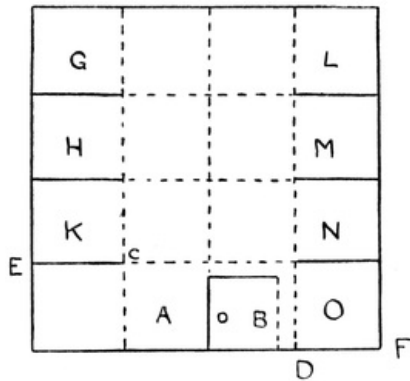
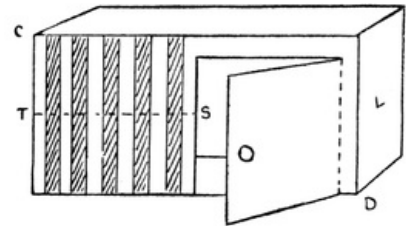
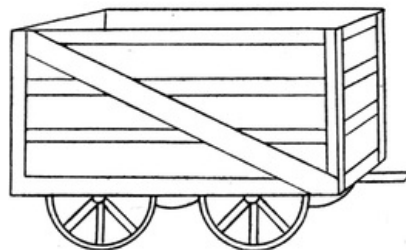

FIG. 6
FIG. 7
FIG. 9
**Model 1. The Rabbit Hutch.** Fold paper into 16 squares as in Fig. 6. Cut lines indicated. Draw bars in square A, or fold along T S (Fig. 7) and cut out the bars; the door is drawn and cut in square B. Colour the whole yellow or brown to represent wood. Gum L over M; N over M; O over N. The same on the other side. A small paper-fastener makes a good handle. Rabbits and carrots can be cut out of paper to furnish the hutch (Fig. 7).
**A Luggage Van or Cattle Truck** (Fig. 9) can be made from a square of the same size by cutting off oblong E F (Fig. 6) and gumming L over N and M over L.
**Side-board**. Begin with two equal squares. Cut and fasten one square together as for rabbit hutch (Fig. 6), but cut two doors. One quarter of the second square must be cut and gummed on to back to form